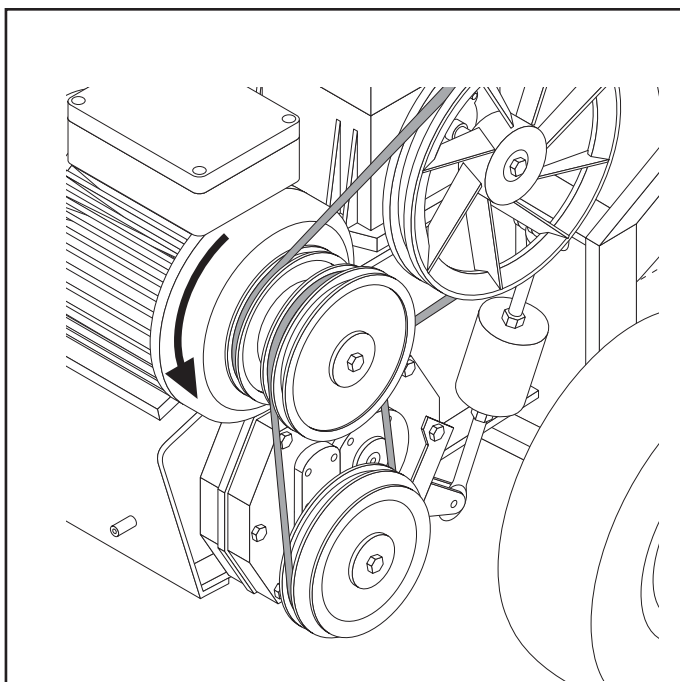
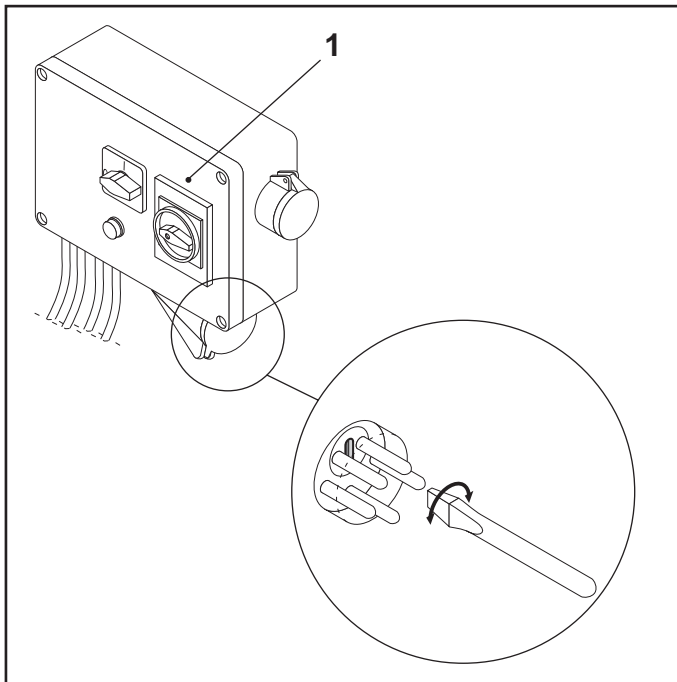

FIG.14
FIG.15
-Check the correct rotation of the engine: It must be anti-clockwise, as indicated by the label positioned on the engine (FIG.14). If this is not the case, switch the engine off and invert the polarity, using a screwdriver on the power supply socket positioned in the lower part of the electric control board (FIG.15).